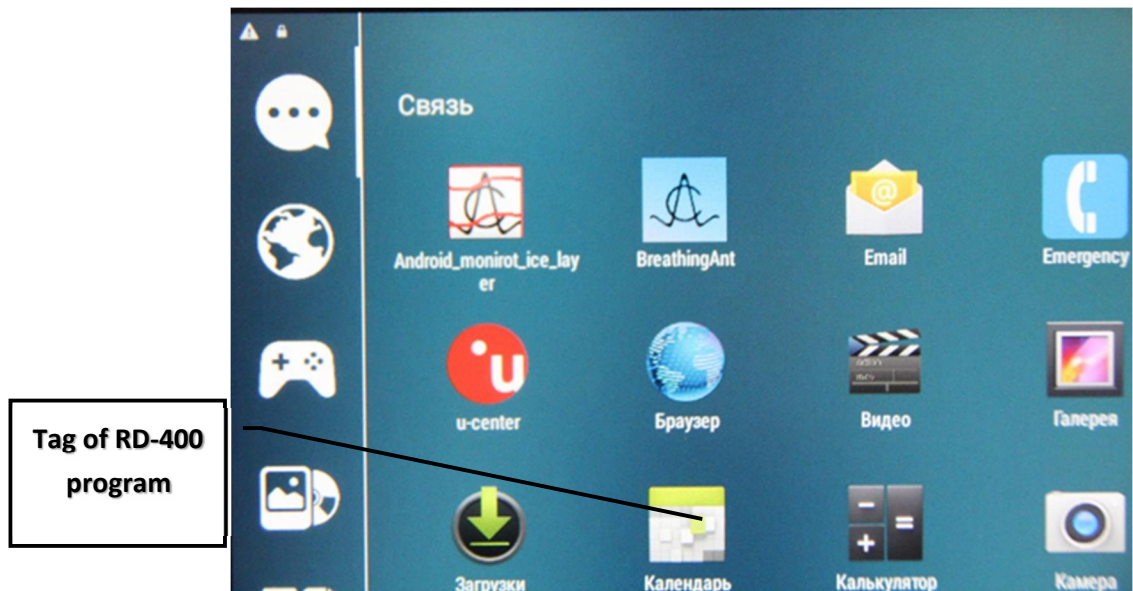

Figure 4.1. Icon of RD-400 control program on the PC Desktop
Before start of the charging procedure, it is necessary to unplug connector (item 1 Figure 4.1) from the power supply unit.
1. Disconnect the connector, item 1 (Figure 4.1)
2. Unscrew the screw, item 2 (Figure 4.1).